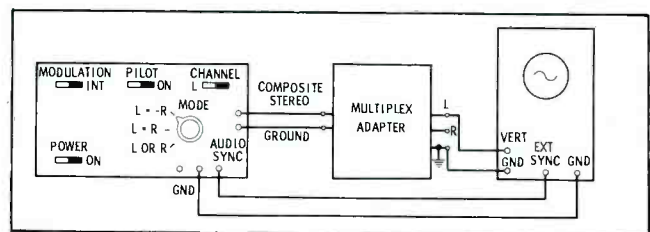

Fig. 5. Setup used to check multiplex unit for separation.
In the lab, we found channel-separation tests—with the generator operating in the LORR mode—most widely useful in diagnosing the condition of multiplex equipment. The setup is as shown in Fig. 5. Most FM-tuner manufacturers specify using "left channel only" modulation for the basic test, and switching to a height-channel signal as a secondary check. A scope is used as an output indicator, and is first connected to the left audio terminal. If the multiplex circuits are operating properly, the scope should display a 1-ke signal of sufficient amplitude to drive the left channel of the audio system to normal output. When the scope probe is transferred to the right-channel terminal of the multiplex unit, a much smaller signal should be noted. The right channel is never completely free of output when a "left-only" signal is present, because practical multiplex circuits do not give perfect channel separation; however, the left-channel output should be at least 10 times (20 db above) the peak-to-peak voltage amplitude of the observed right-channel output. When the CHANNEL switch on the generator is changed to the R position, the signal-voltage conditions in the two channels should be almost exactly reversed.
2. The channel-separation test is set up, as in Fig. 5, and certain of the 19 and 38 kc adjustments are critically retouched for maximum separation and minimum audio distortion.